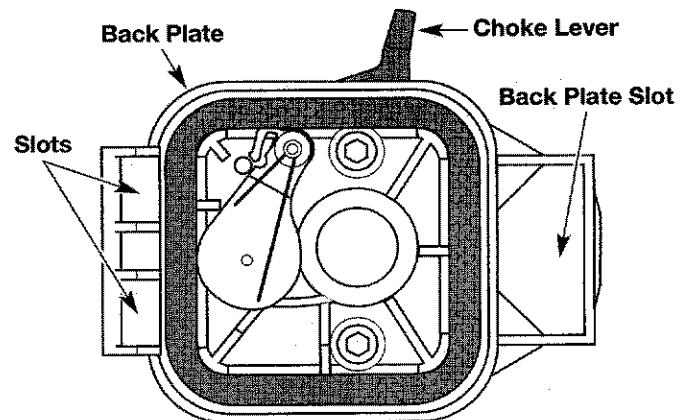

Fig. 47
6. Replace the filter (Fig. 47).
7. Reinstall the air filter cover. Position the hooks on the left side of the air filter cover into the slots at the left side of the back plate (Fig. 47).
8. Swing the cover to the right until the tab on the air filter cover snaps into place in the slot on the back plate (Fig. 47).